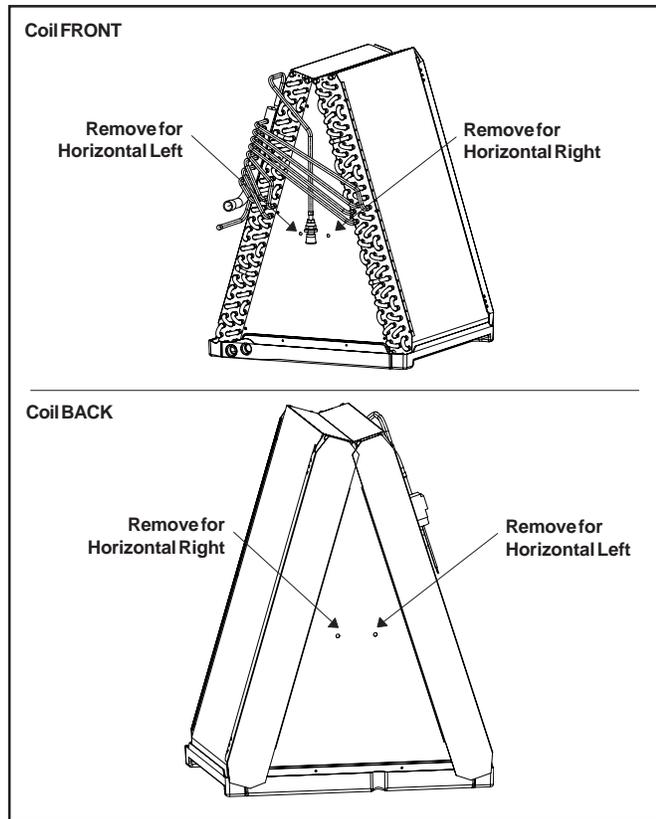

Figure 3
- 4) The coil will have two sets of 1/4" knockouts used for either horizontal left or horizontal right. Remove the knockouts that are on the side of the coil in which the horizontal drain pan will be on. (See Figure 3.)